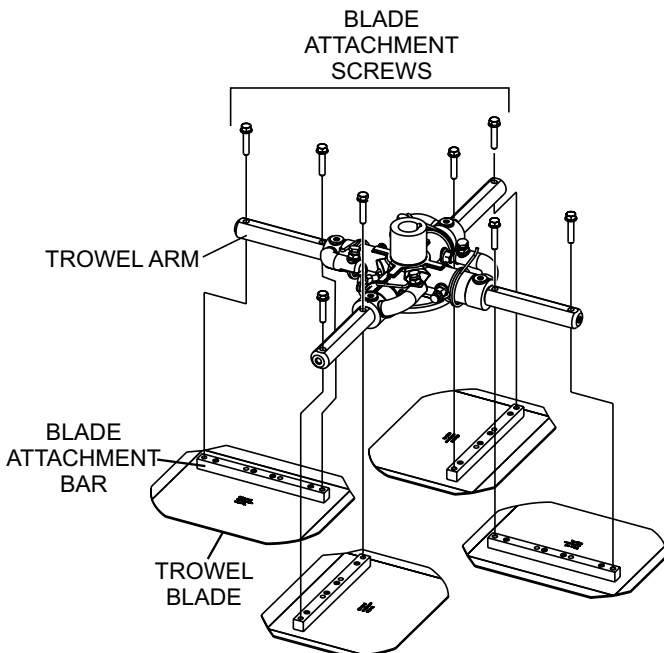

Figure 25. Blade Removal
2. Remove the bolts and lock washers from all of the trowel arms, then remove the blades as shown in Figure 25.